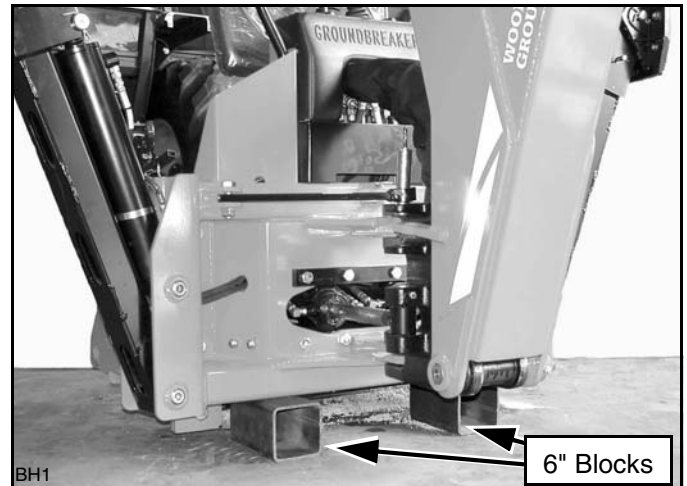

Figure 7. Backhoe Storage Position (Typical)
7. Place 6" blocks under backhoe mainframe and raise stabilizers to lower the backhoe onto the blocks as shown in Figure 7. Adjust blocks to make backhoe stable.